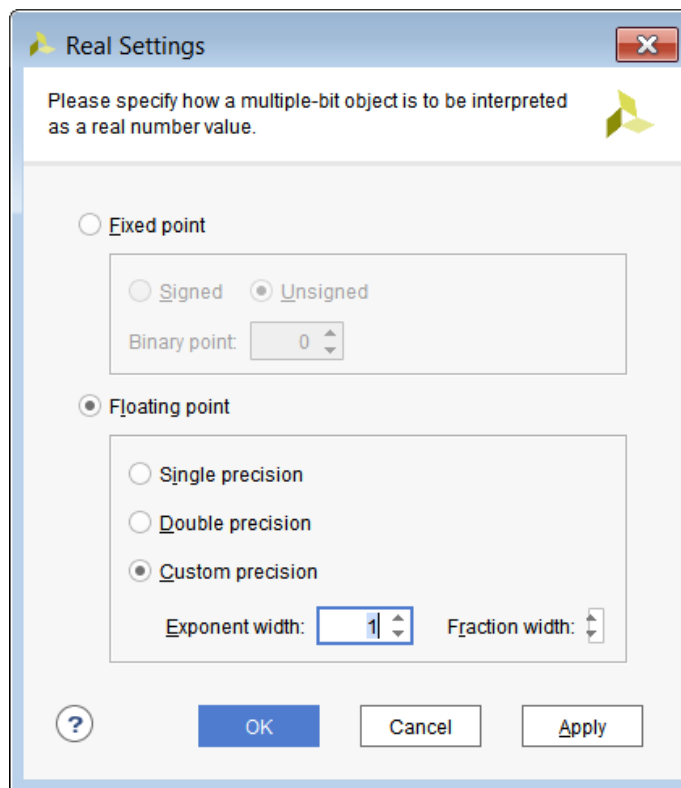

Figure 5-2: Real Settings Dialog Box
2. Select Radix > Real Settings to open the **Real Settings** dialog box, shown in Figure 5-2.